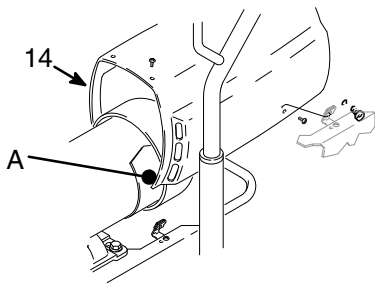

Fig. 11 01224A
2. Remove the shield (14). Remove the covers (A) from both brush inspection ports. See Fig. 11.